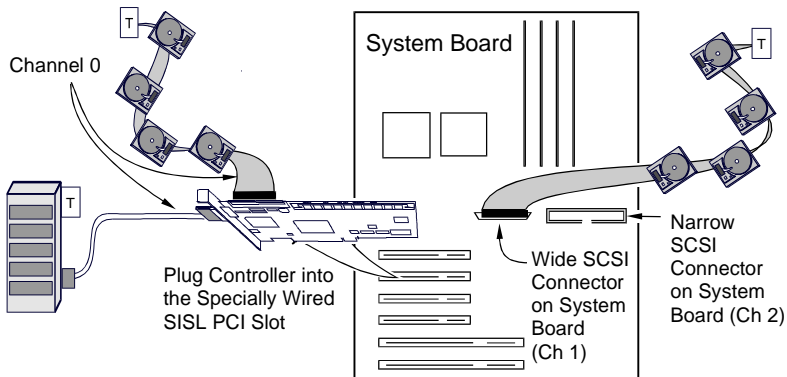

Figure 2-21. AcceleRAID 150 Typical SISL Installation showing channels
7. Connect the SCSI cables from the disk drives to the drive channels, as required, according to the example shown in Figure 2-21.